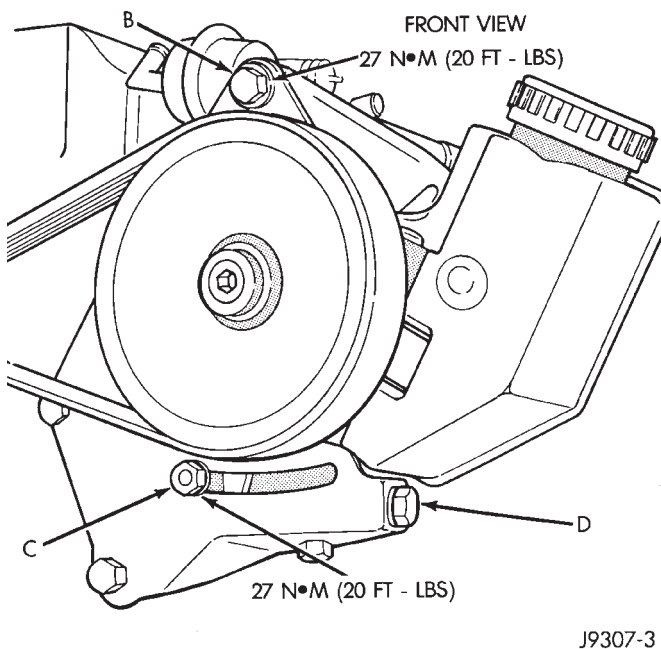

Fig. 6 P.S. Pump Front Mounting Bolt/Locknut—4.0L Engine
- (2) Loosen upper pump pivot bolt B and lower lock nut C (Fig. 6).